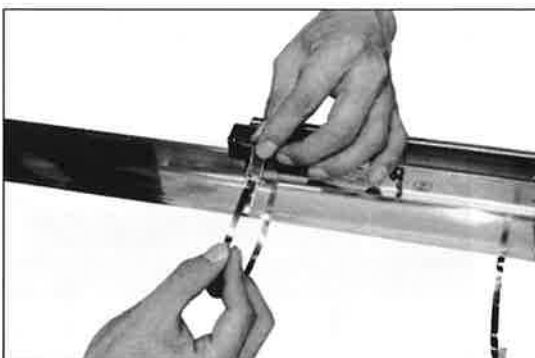

Fig. 3-3
- (3) Turn the stainless steel belt around the pipe as shown in Fig. 3-3, and insert the lever.